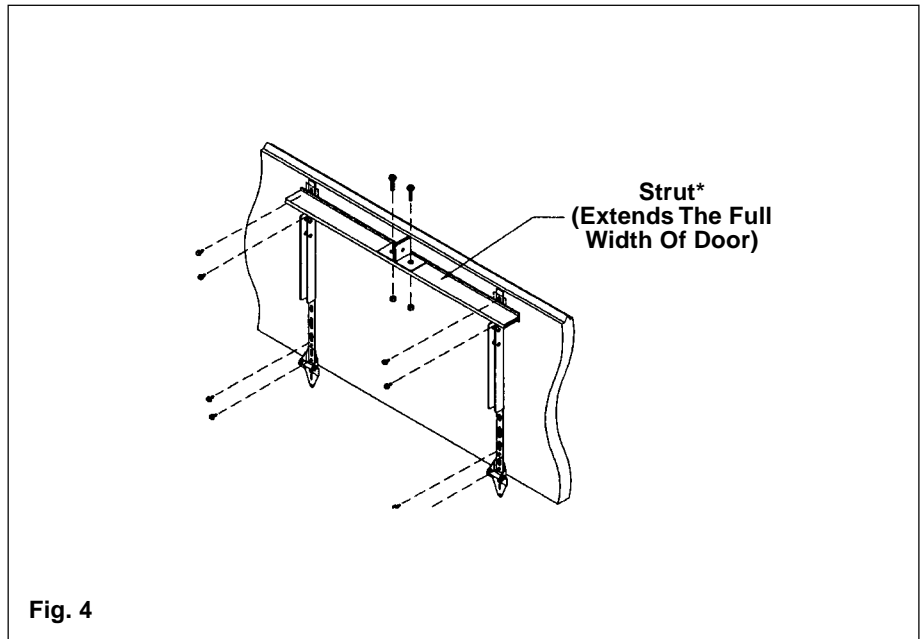

Fig. 4
(Fig. 4) Install opener arm to one of the operator reinforcement brackets. It will be necessary to mount the operator off center of door, to align with operator reinforcement bracket. **OR B)** Install opener arm to strut using bracket provided with operator or cut (2) 1" pieces of punched angle and mount on strut as shown with 1/4" x 20 hex bolts and nuts. (See Figures 4 & 6A for an example.)
(Fig. 4) Install opener arm to the strut using the bracket provided with operator or cut (2) 1" pieces of punched angle and mount on strut as shown with 1/4" x 20 hex bolts and nuts. (See Figures 4 & 6A for an example.)